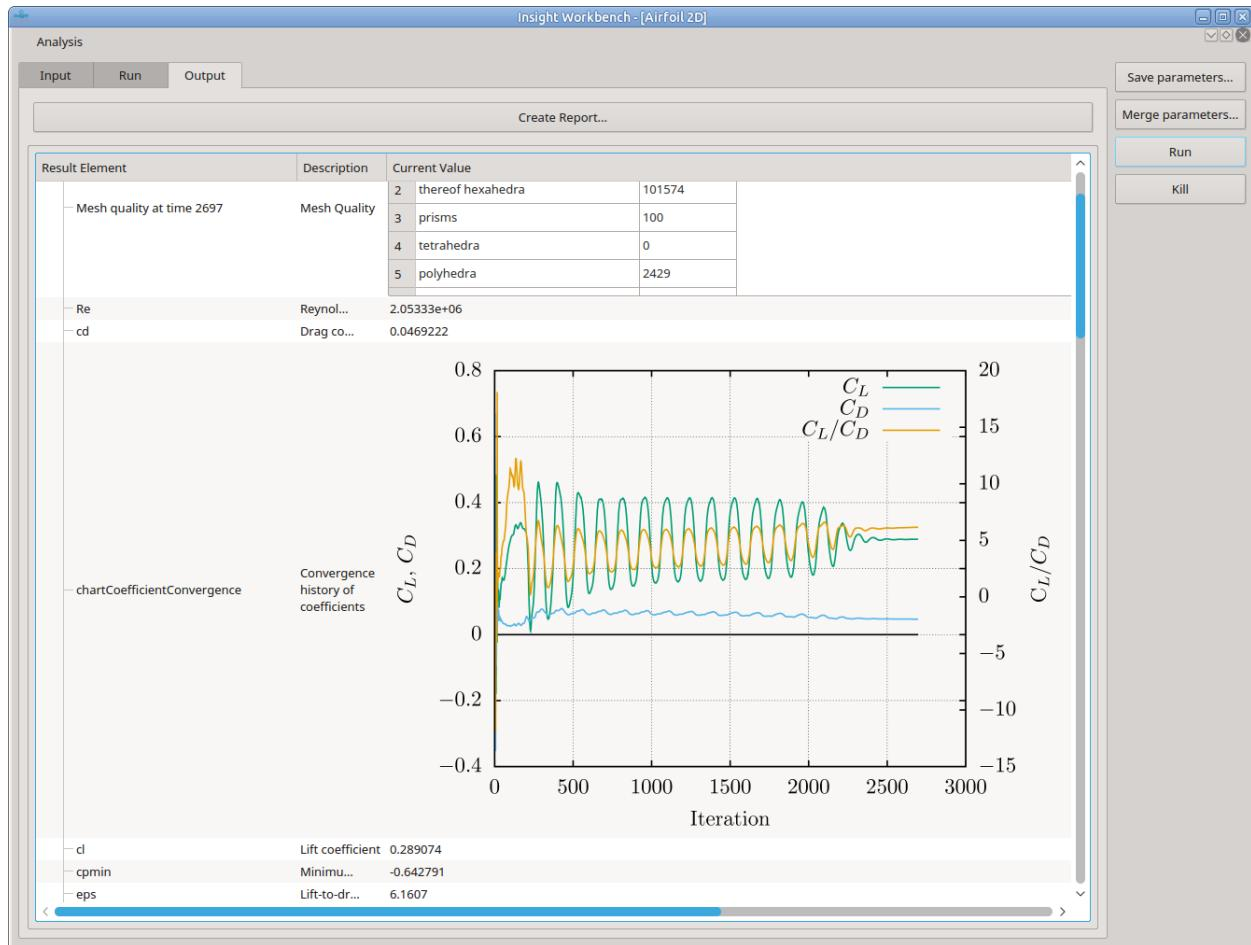

Figure 7: Result explorer tab of the workbench
**Viewing the Results** Once the simulation run is finished (that means that the solver has finished and that all post processing steps are done), a result set is created and loaded into the workbench. It is displayed in the "output" tab (see figure 7). The result set can be rendered into a report (see "Rendering Results into a Report").